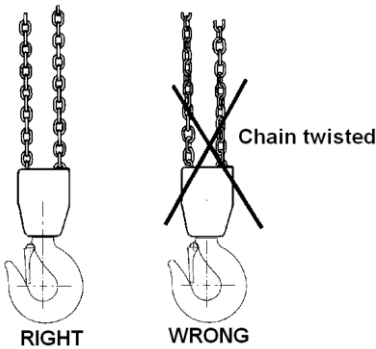

Fig 3 The chain must not be twisted
- The load chain must not be kinked or twisted. With two-fall or multi-fall chain hoists there is a risk of the chain twisting if the bottom hook assembly ends up looped through the chain sling – usually during refitting or moving the chain hoist between work stations. See Fig 3.